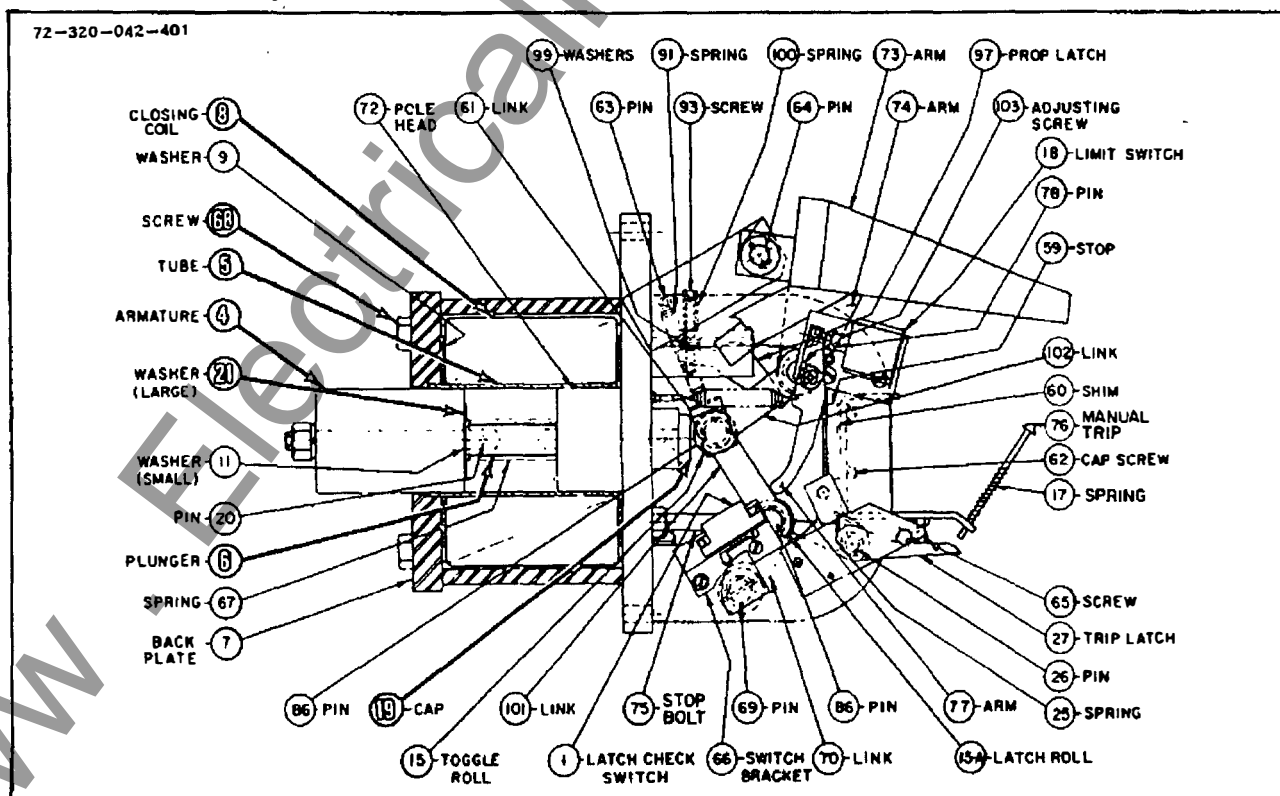

Fig. 5 - Solenoid operator assembly.
The primary closing force of this operator (Fig. 5) is supplied by a dc solenoid. The iron circuit housing the solenoid consists of the main operator frame – to which the pole head is welded – a helically wound tube and a back plate held in place by four bolts (68). The armature (4), with plunger (6) and cap (19) attached, slides in a non-magnetic tube (5). When the coil (8) is energized, the armature moves toward the pole head. The non-magnetic washer (21) keeps the armature from actual contact with the pole head so that the armature will release rapidly when the coil is de-energized by reducing the effect of the residual magnetism. The armature is returned by a spring around the plunger.